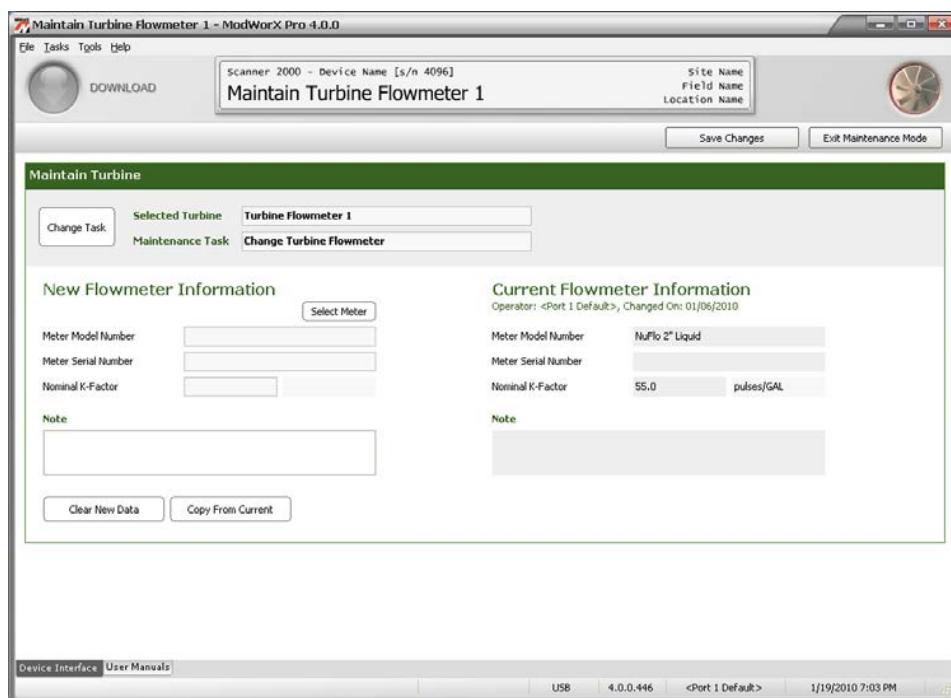

Figure 13.5
4. Click ***OK*** to save the settings and return to the Maintain Turbine screen (Figure 13.5).